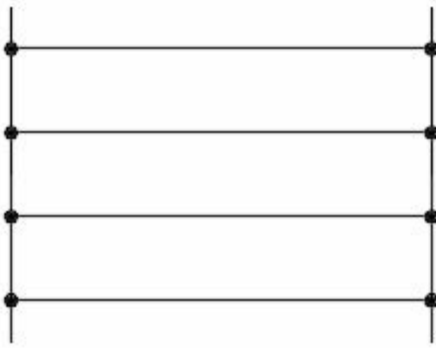

Figure-29. Rotated ladder
- After rotating the ladder, it will be displayed as shown in Figure-29.